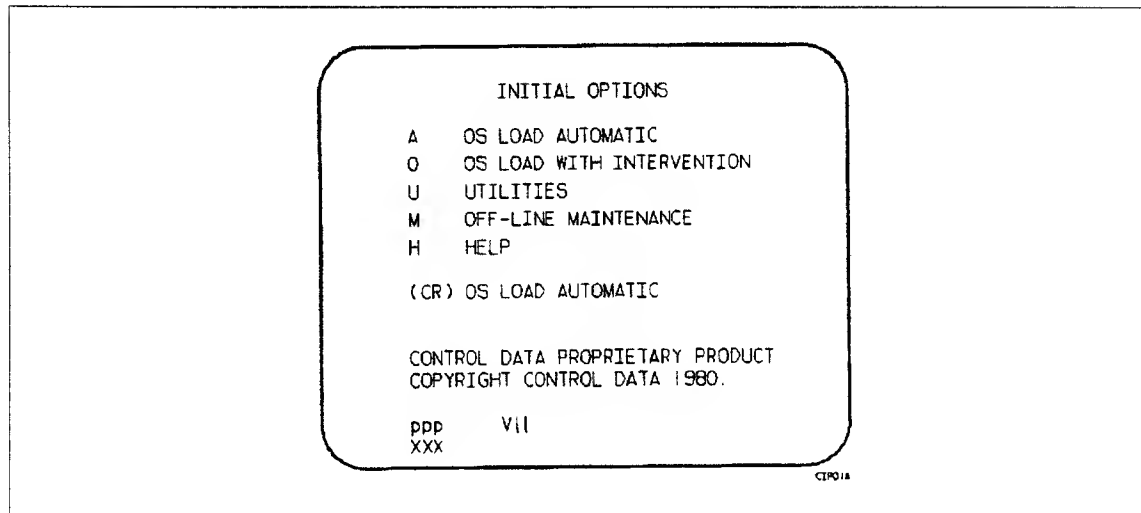

Figure 3-1. Initial Options Display
- ___ 3. The INITIAL OPTIONS display shown in figure 3-1 will appear. You may proceed to select appropriate options from the CTI displays.
After the deadstart is executed, the INITIAL OPTIONS display (figure 3-1) will appear.